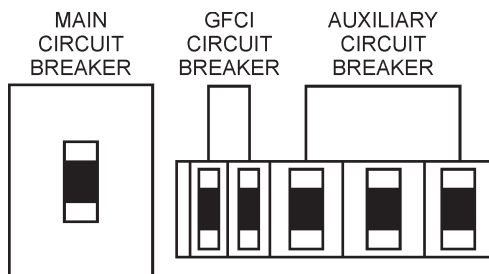

Figure 53. Main, GFCI and Load Circuit Breakers Off
- Place both the **MAIN, GFCI and LOAD** circuit breakers as shown in Figure 53 to the **OFF** position..